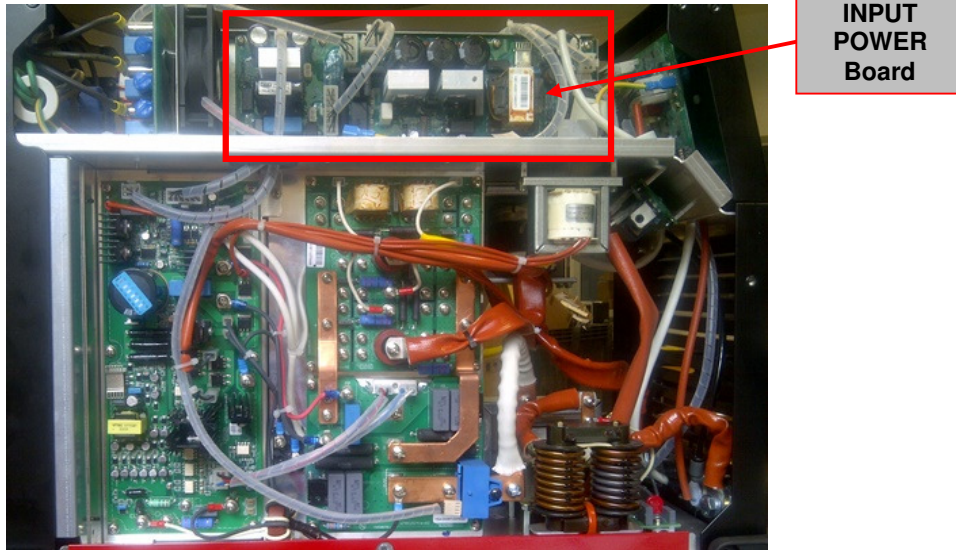

Figure 6 – W05X1461 INPUT POWER Board location
3. Locate the Input Power Board on the upper left side of the machine. See **Figure 6**.